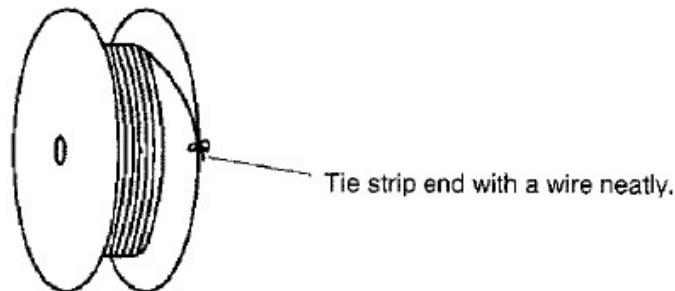

Fig. 2
- (3) Avoid storing the contact reel in a moist or dusty place. Stock the reel in a comparatively dry and clean place (5~34 °C, 45~85%RH) away from direct sunlight.
- (4) When removing the contact reel from the machine, fasten the end of the contact strip onto the edge of the reel with use of proper string or wire. Fig.2